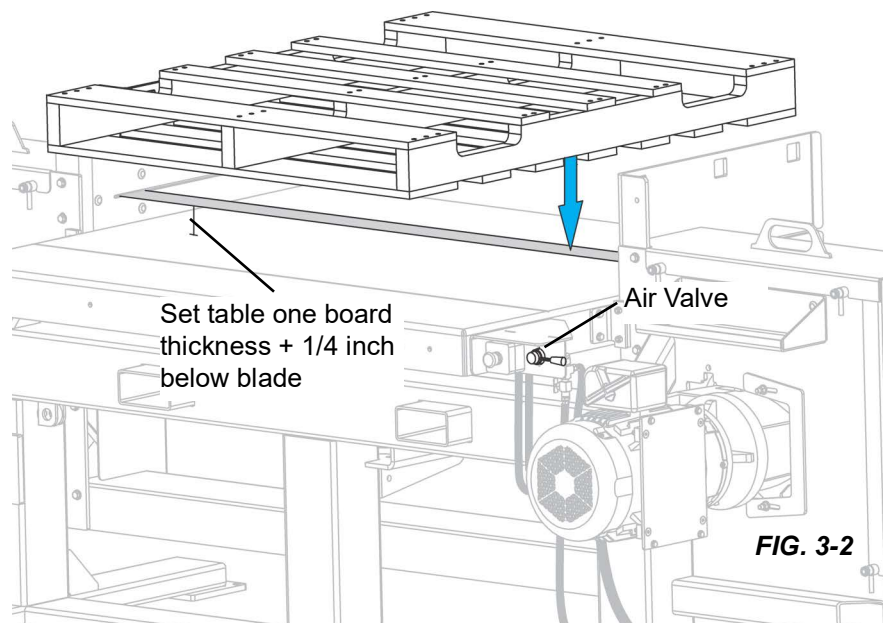

FIG. 3-2
9. Place half the pallet over the blade and lower the pallet so the blade is positioned between two deck boards. (See figure 3-2.)